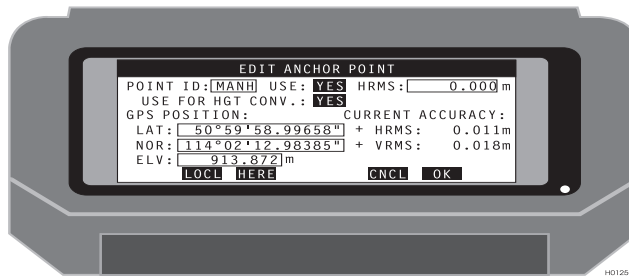

Figure 2.43. Edit Anchor Point (GPS) Screen
8. To edit the GPS coordinates of a point in the current list of points, use the Edit Anchor Point (GPS) screen (Figure 2.43).